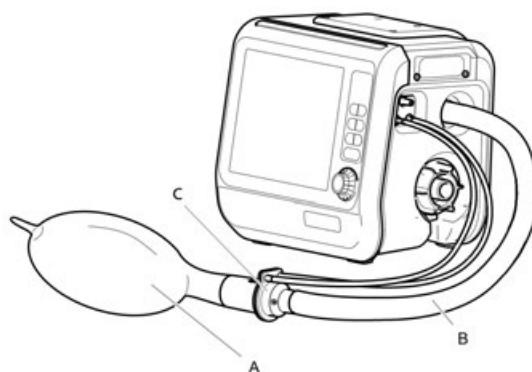

Fig. 135 Test Configuration 11
4. Set up test configuration 11. Fig 135.